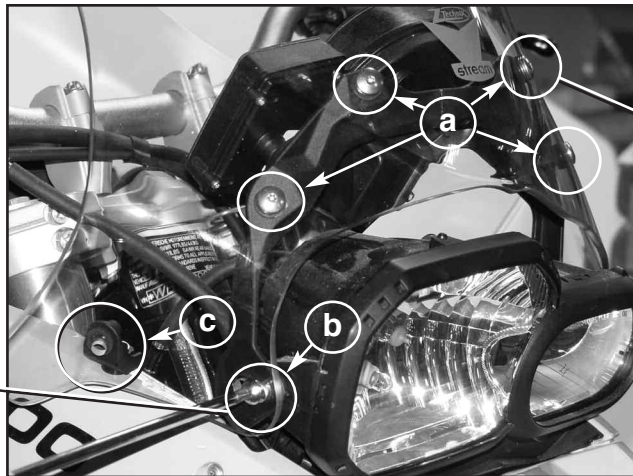

Figure 4
3. Loosely install the four upper screw assemblies at point (a). **(T25) Figure 4**
5. Loosely install the Swivel Mount Screw at point (c). **(T25) Figure 4**